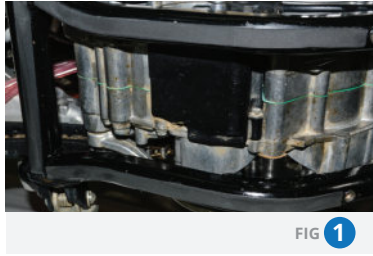

FIG 1
- 1** Be sure the frame is free of any dirt, grease or oil. Apply self-adhesive strips on the frame where it will come in contact with the skid plate. [Fig. 1]